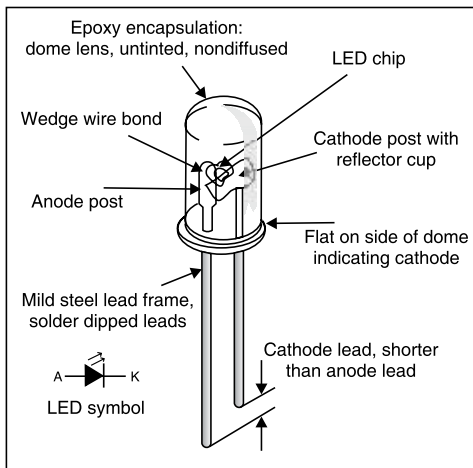

Fig. 54: Parts of an LED
**5. Light emitting diode (LED):** Fig. 54 shows the anatomy of an AlGaInP [aluminium (Al), gallium (Ga), indium (In) and phosphide (P)] LED.